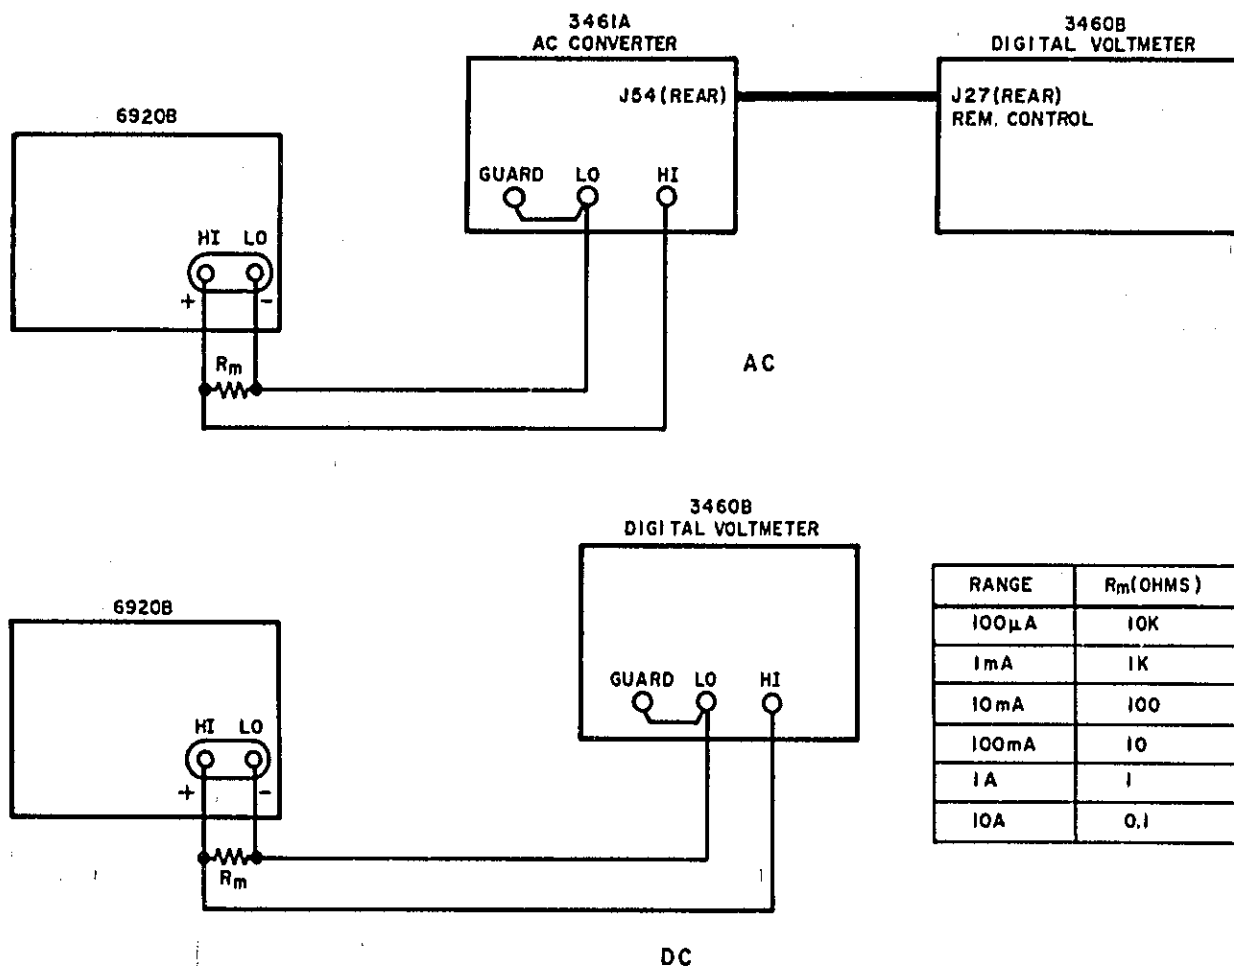

Figure 5-2. Checking Current Calibration
In all current ranges, when using the monitoring resistor values shown in Figure 5-2, the equivalent voltage tolerance will be as shown in the 1 volt range.
- b. Connect equipment as shown in Figure 5-2.
- d. Connect a 10K ohm ±.05% resistor across the output terminals as in Figure 5-2.
- e. With OUTPUT "ON" check calibration at (1)000 and 100 on the dial, referring to Table 5-2 for tolerances.
- f. Check the remaining current ranges, using monitoring resistors as shown in Figure 5-2 and referring to the tolerances in Table 5-2.
- c. Output dial to (1)000.